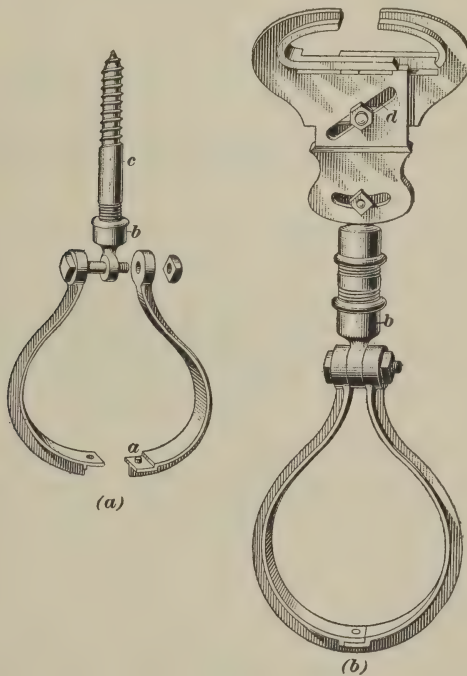

FIG. 59
**81.** The **Blake hanger**, shown in Fig. 59 (*a*), is made of malleable iron. Its construction somewhat resembles that of the Ideal, with the exception that the clamp is in two parts joined at the bottom with a tongue or pin, as shown at *a*. The clamp is bolted to a socket *b* that is tapped with a pipe thread and into which a lagscrew *c* is screwed. The lagscrew is used for connection to wooden beams. The Blake hanger for iron and steel beams, however, is provided with a nipple that attaches the socket *b* to an adjustable beam clamp. The beam clamp is made with a diagonal slotted hole *d* for a bolt, and allowing adjustment to the iron beam.